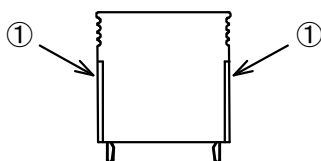

Fig.4 SPD main unit
- 3) Installation and removing method of the SPD main unit (Ref : Fig.4, 5, 6, 7)
- a) When installing the SPD main unit, the concave of the SPD main unit (①part) should be fitted in the convex of the fixing base(②part). Push the SPD main unit down to the fixing base securely until the end. If the SPD main unit is not put in the fixing base until the end, the SPD may be no functioned normally.
- b) When removing the SPD main unit from the fixing base, pull out with vertical direction (④part) while tilting the SPD main unit towards to the direction of arrow head ③, holding the both grab side of the SPD main unit.